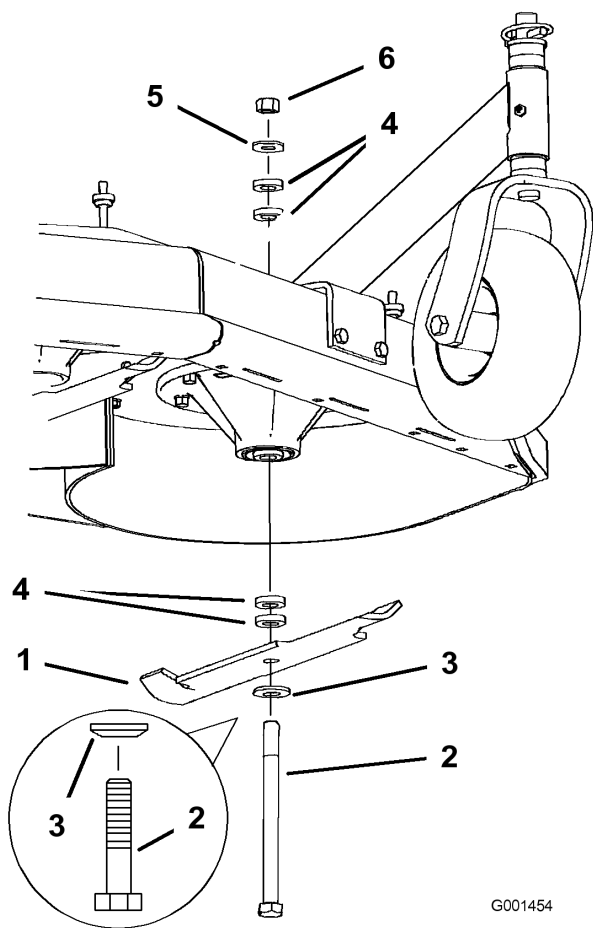

Figure 58
2. Remove the nut, blade bolt, curved washer, blade, spacers, and thin washer from the spindle (Figure 58).
1. Install the bolt, curved washer, and blade. Select the proper number of spacer(s) for the height-of-cut, and slide the bolt into the spindle (Figure 58).
2. Install the remaining spacer(s) and secure them with a thin washer and a nut (Figure 58).